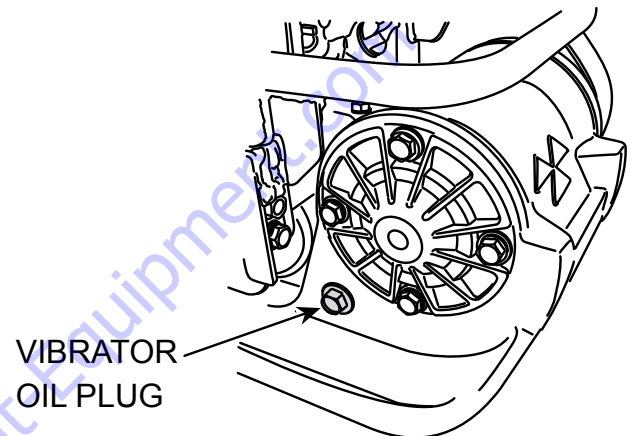

Figure 9. Vibrator Oil Plug
2. Check vibrator oil level by removing the oil plug (vibrator oil gauge) as shown in Figure 9. The oil level should be up to the oil plug. **IMPORTANT**, if oil is required, replace using only SAE10W-30 motor oil.
3. Place the fuel valve lever (Figure 9) in the **OFF** position.